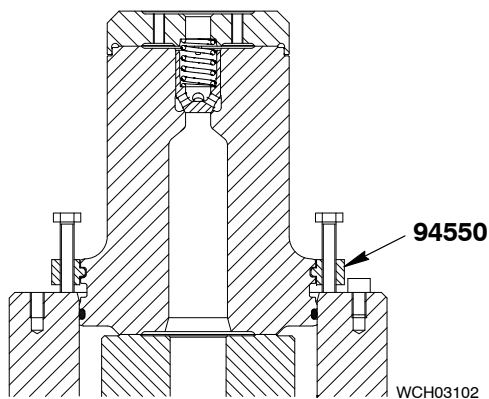

Fig. 10
- 5) Attach the clamp ring (94550, Fig. 10) to the valve block.
- 6) Use the clamp ring (94550) to remove the valve block (4).
- 7) Remove the retaining screw (5) and fluted seal ring.
- 8) Carefully remove the pump cylinder (7) from the housing (6).